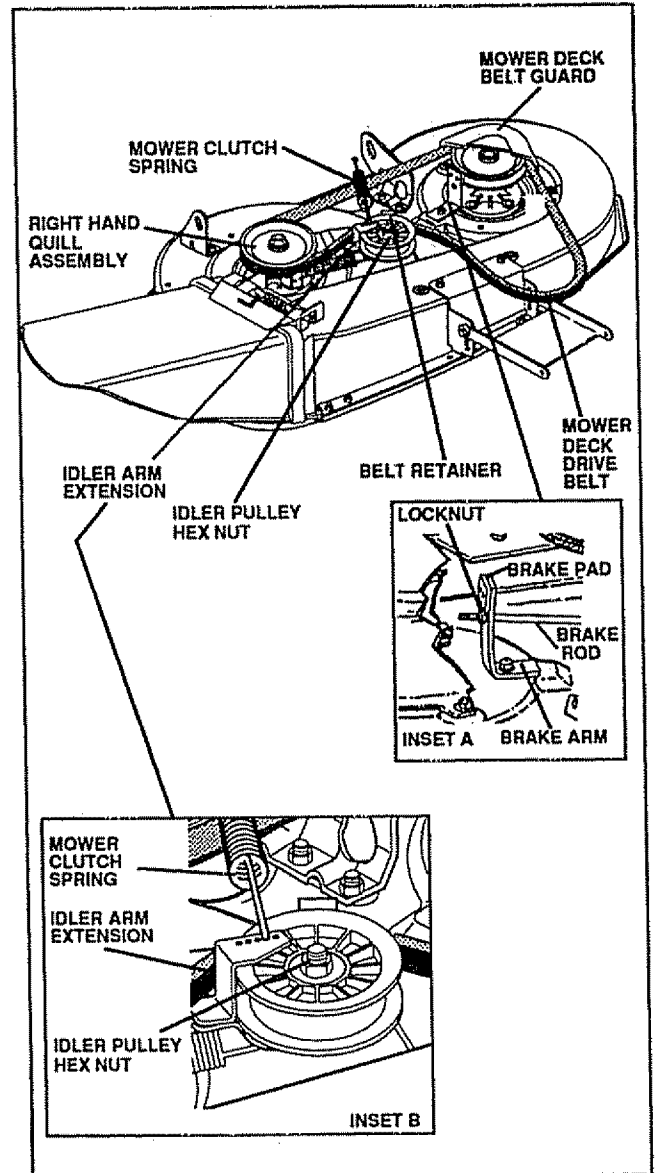

FIG. 25
### TO ADJUST BLADE DRIVE BELT (See FIG. 25)
### BLADE BRAKE ADJUSTMENT (See FIG. 25)
- Note which one of five holes on front of idler arm extension is used for attaching mower clutch spring (see FIG. 25, inset B).
- Locknut, on end of brake rod, should be approximately 1/8 inch from brake pad mounting bracket with left hand brake pad against pulley of left hand quill assembly (See FIG. 25, inset A).